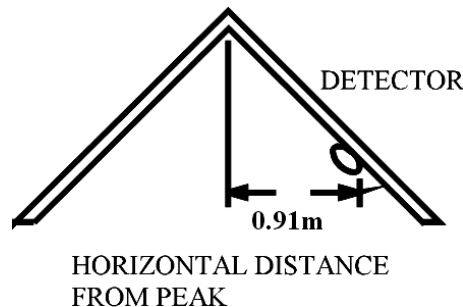

Fig. 5: Recommended location to mount smoke detectors in rooms with a sloped, gabled, or peaked ceiling
- If some of your rooms have sloped, peaked, or gabled ceilings, try to mount detectors 36 inches (0.91 meters) measured horizontally from the highest point of the ceiling as shown Fig. 5.